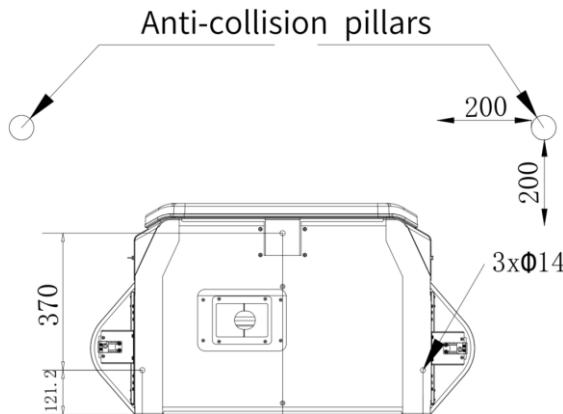

Fig. 5-4 Anti-collision pillars
- In order to prevent the vehicle from colliding with the charging station by mistake, it is recommended to install an anti-collision pillars at an appropriate position in front of the charging station (the minimum distance between the anti-collision pillars and the charging station is 200mm, which does not hinder the operation of the door switch) as shown in Fig. 5-4. The anti-collision column is pre-buried below the ground with no less than $\phi 80$ galvanized pipe, the height of the ground is not less than 800mm, the wall thickness is not less than 3mm, and the surface coating is mixed with reflective materials.